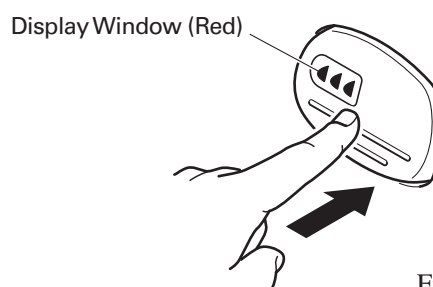

Fig. 3
- 1) Push ON/OFF button fully. (Fig. 3)